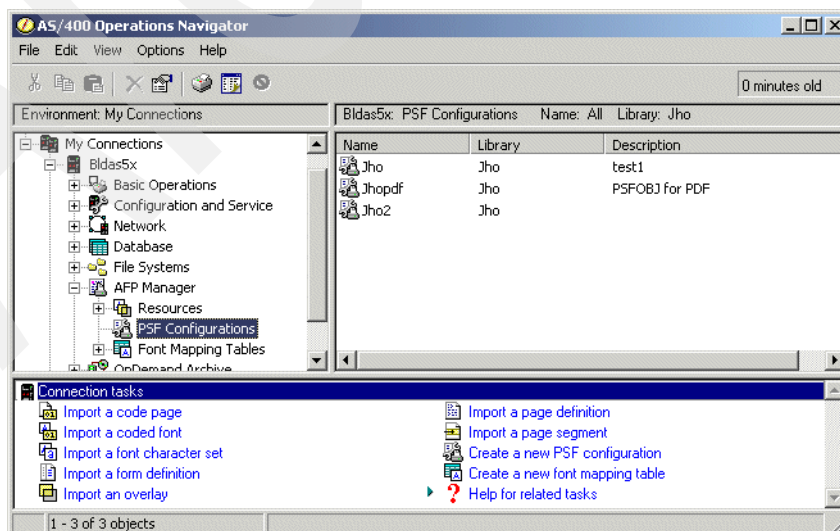

Figure 144. AFP Manager objects
1. Figure 144 shows the list of objects from the user library only. Select the **Options** menu and select the **Include** option.